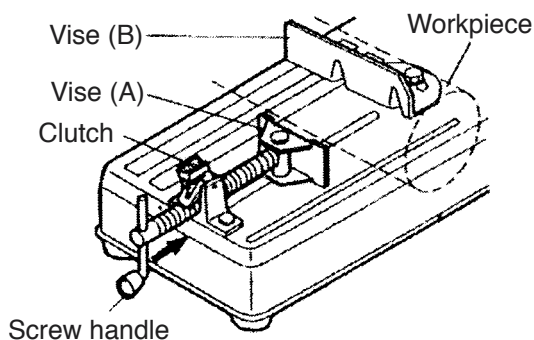

Fig. 1 High speed feeding
Vise (A) can be fed quickly by pushing or pulling the screw handle with the clutch of the one-touch vise disengaged. (Fig. 1)